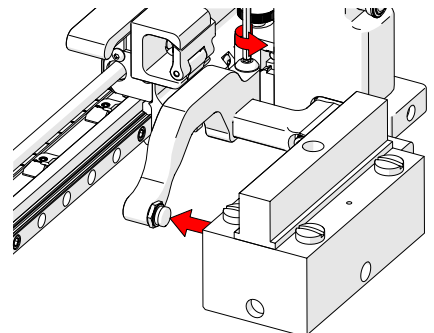

Fig. 50 - Adjust inner arm
- Loosen the arm clamp screw (Fig. 50).
- Place the wedge on the pivot button of the inner probe holder arm (Fig. 50).